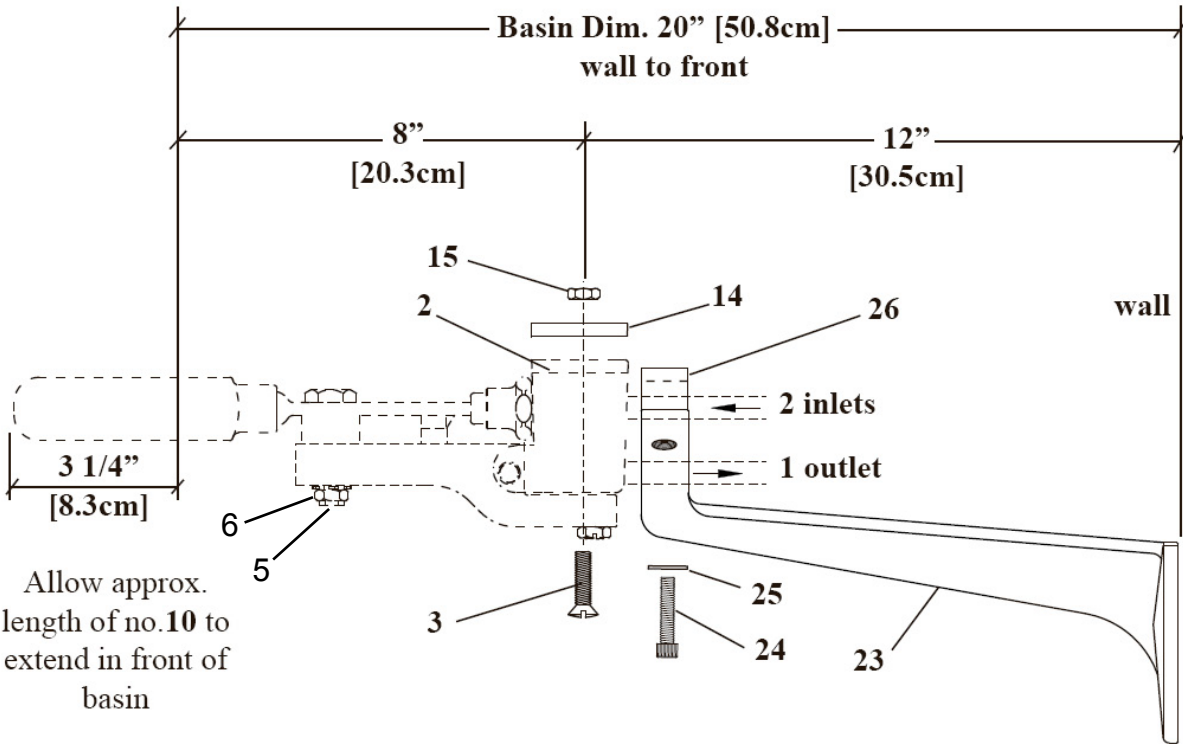

FIGURE 1
2. DETERMINE ACTUAL MEASUREMENTS (WALL TO FRONT) AND USE MEASUREMENTS BELOW (FIGURE 1) AS A GUIDE.